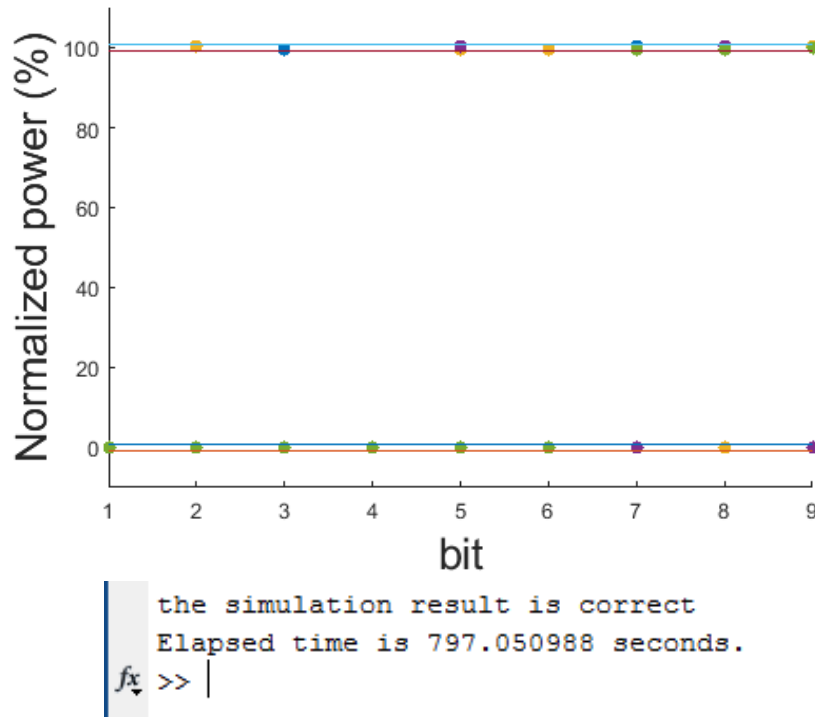

Figure 1.5: Simulation result.
- Obtain the result as shown in Figure 1.5.